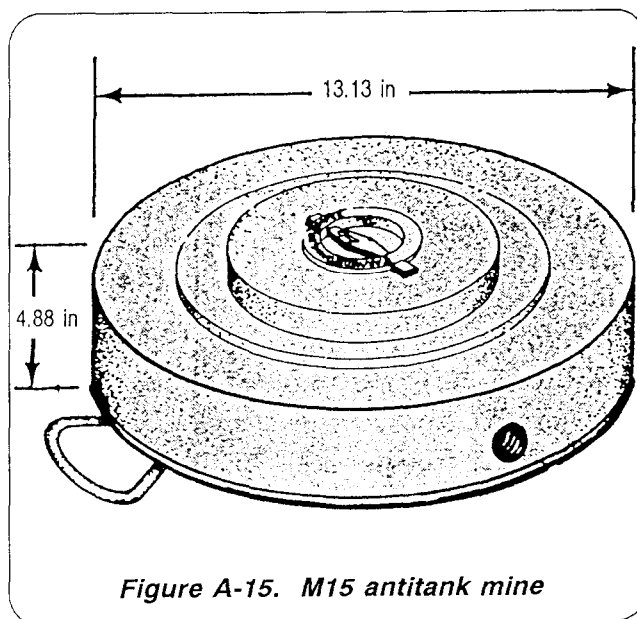

Figure A-15. M15 antitank mine
The M1 5 mine (Figures A- 15 and A- 16) is a blast-type, AT mine contained in a round, sheet-steel casing. The primary fuze well is located in the top center of the mine. There are also two secondary fuze wells - one on the side and one on the bottom of the mine. The primary fuze well accepts an M603 pressure-actuated fuze. A standard firing device (FD) can be used in the secondary fuze wells with the M1 activator. The M624 tilt rod-actuated fuze can also be used with this mine.